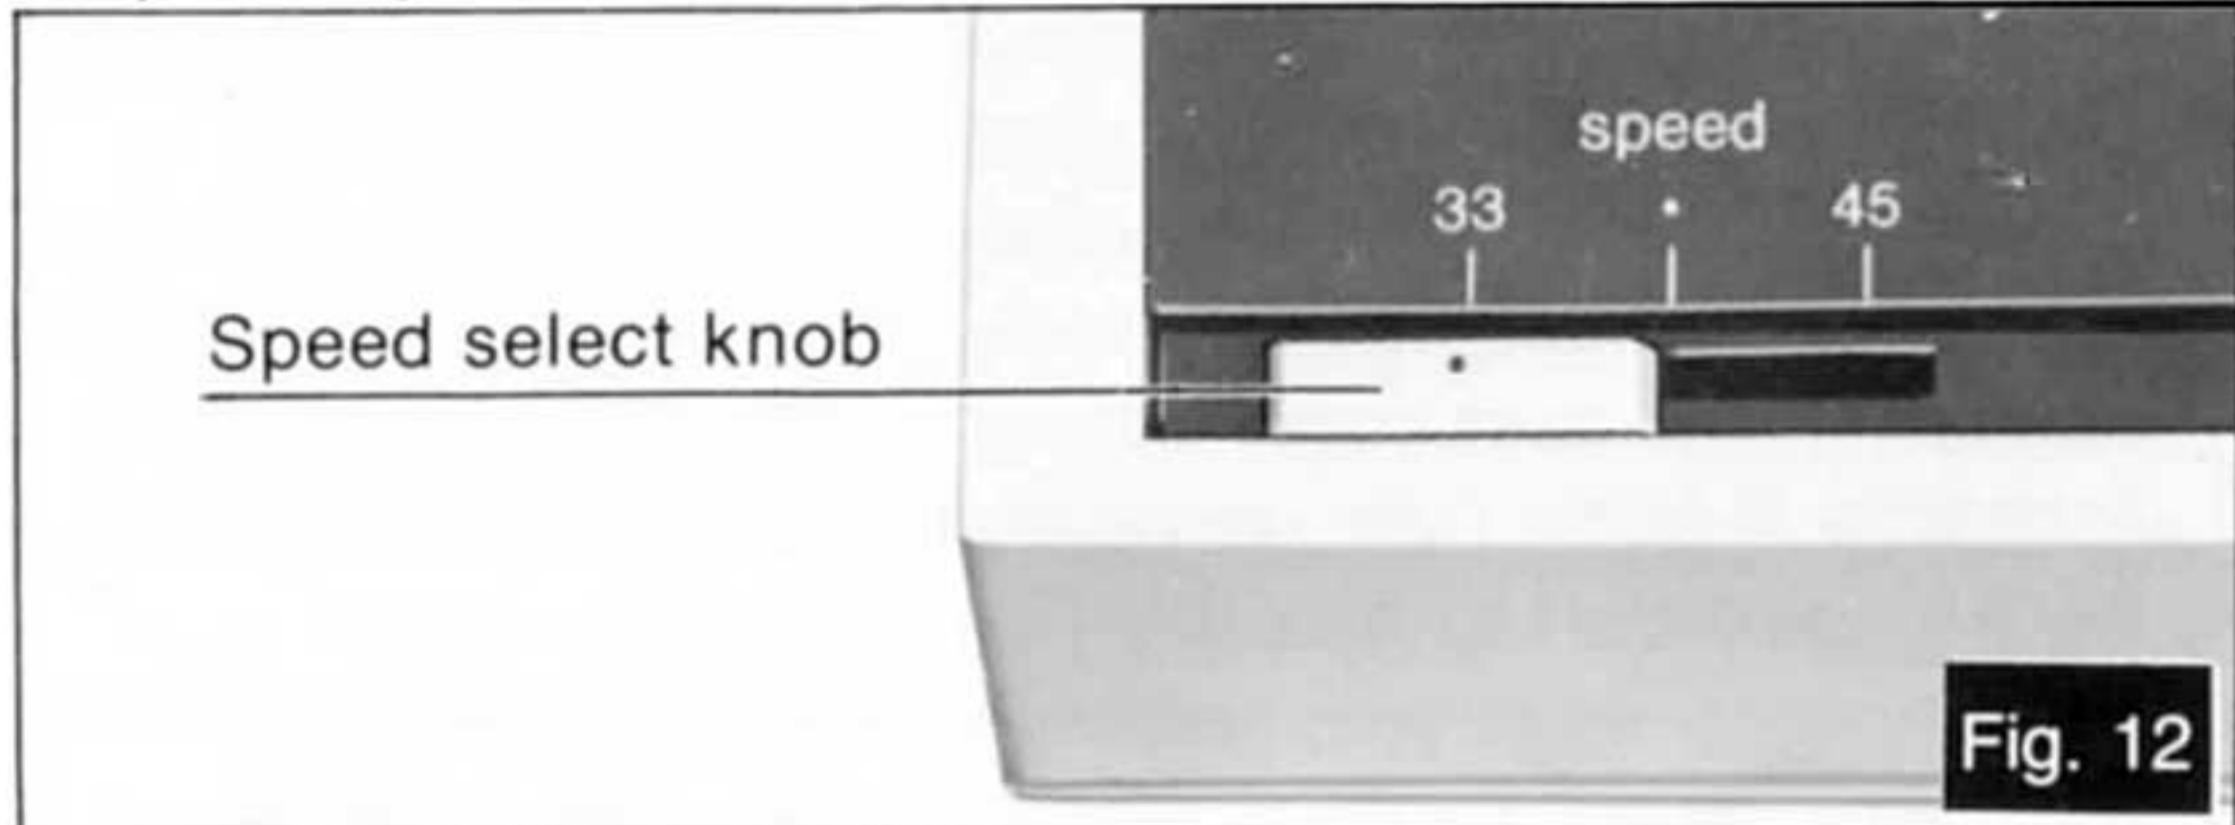

Fig. 12
- ① Place a record on the turntable mat.
- ② Set the speed select knob to the desired record speed. (See Fig. 12.)